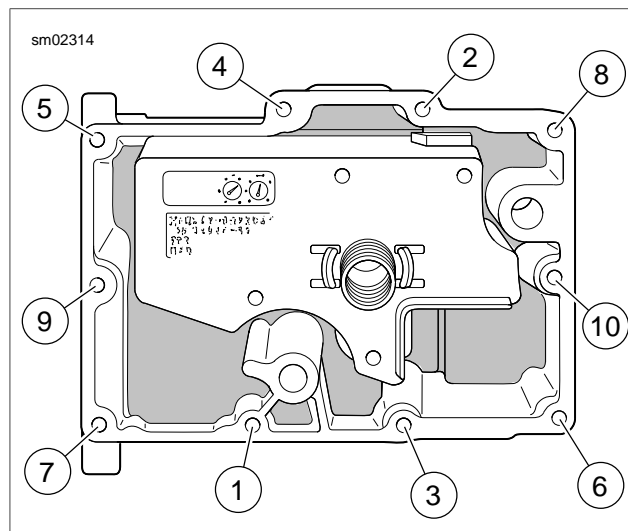

Figure 3-148. Oil Pan Torque Sequence
4. Position gasket and oil pan on transmission housing and install with ten screws (8). Tighten to 84-108 **in-lbs** (9.5-12.2 Nm) following sequence shown in Figure 3-148.